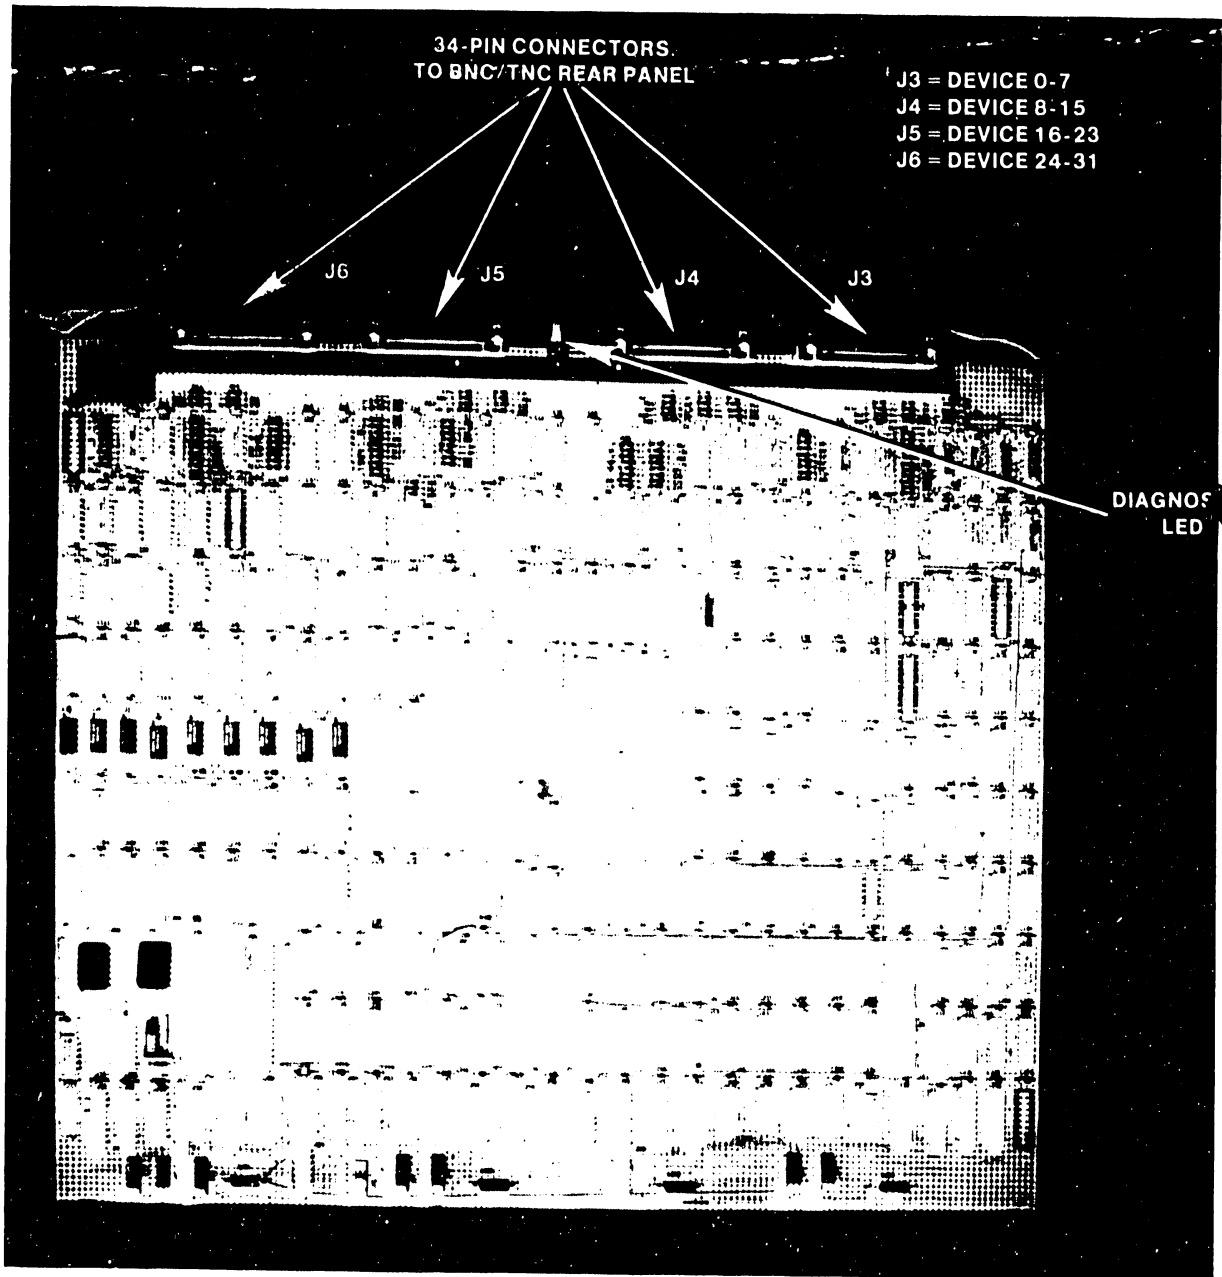

Figure 5-9. 210-8616 Intelligent Serial I/O Adapter
1. Remove all connectors from the top of the Intelligent Serial I/O Device Adapter (figure 5-9) in Motherboard slot 4 (I/ODA1). Note the position of all connectors for later reassembly.